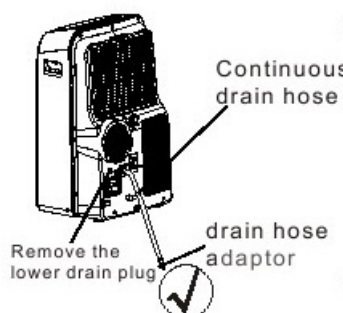

Fig.20b
- Position the open end directly over drain area. (Fig.20b)